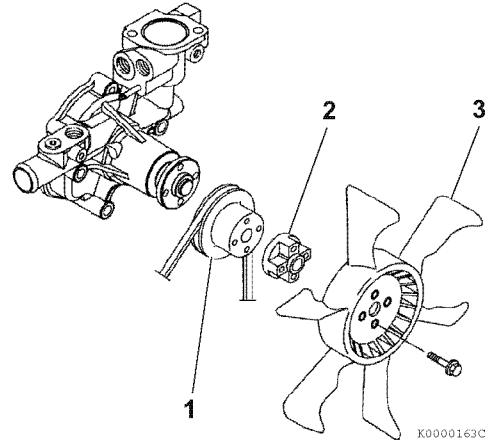

Figure 8-14
4. Reinstall the engine coolant pump V-pulley (Figure 8-14, (1)), spacer (Figure 8-14, (2)) engine coolant fan (Figure 8-14, (3)) and engine coolant fan guard (if equipped).